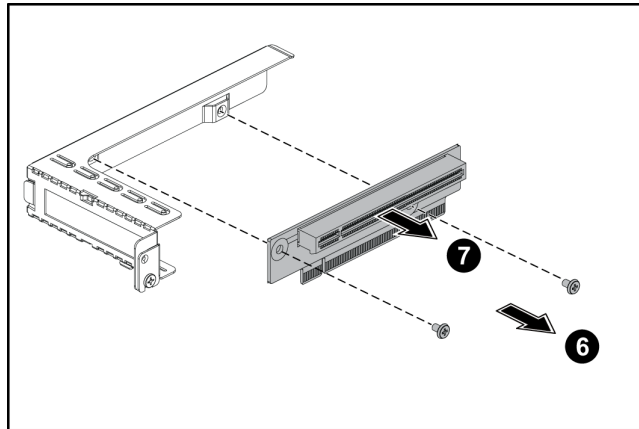

Figure 46. Removing the Riser Card
6. Loosen and remove the two securing screws as shown in Figure 46.